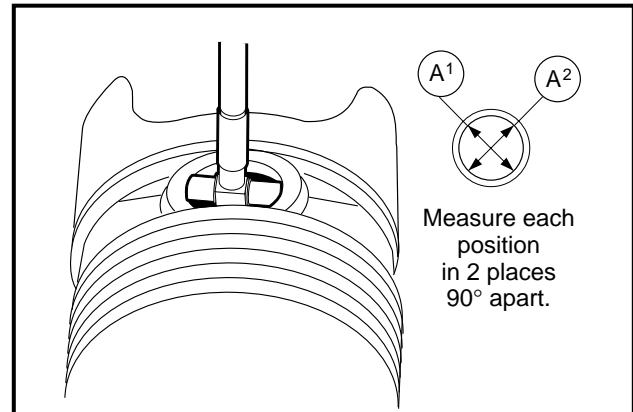

Figure 13-56 Measure Piston Pin Hole I.D.
3. Using an inside micrometer or telescoping gauge, measure the inside diameter of the piston pin hole in the piston at several points (**Figure 13-56, Page 13-29**).